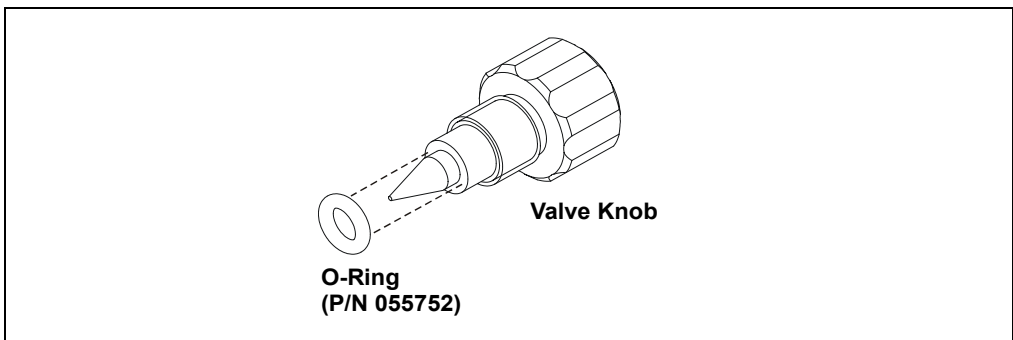

Figure 5-4. Waste Valve or Priming Valve O-Ring Replacement
3. If the O-ring is removed with the valve knob in Step 2, pull the O-ring off the end of the knob (see Figure 5-4).